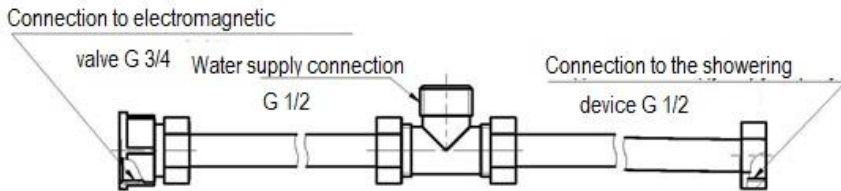

Fig. 3
There is a probe to control food temperature. The article is also provided with a showering device used for the working chamber cleaning purposes. When not in use the probe and the showering device are put on supporting arms, situated on the left lateral panel of the article (see fig. 3).
1.9. In order to connect showering device use valve at the left side of the article. Connect it with a triple adapter and a flexible hose. Connection diagram for the triple adapter and supply lines is shown in Fig. 3